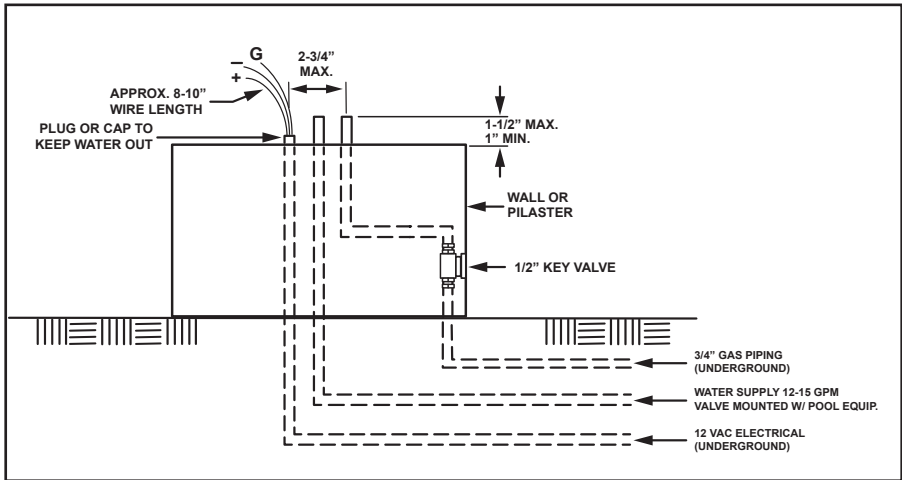

Figure 5. Piping
3. The piping must be reduced to $\frac{1}{2}$ " NPT or larger at each bowl, as shown in Figure 5.